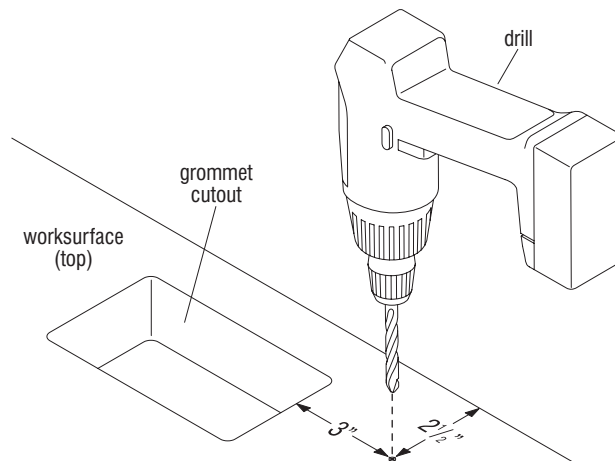

Figure 4
3. On the worksurface top, place a piece of tape over the pilot hole to prevent the laminate from peeling and mark hole location. Drill down through the pilot hole using a 3/8" drill bit in a drill driver until it goes all the way through the worksurface (Figure 4).